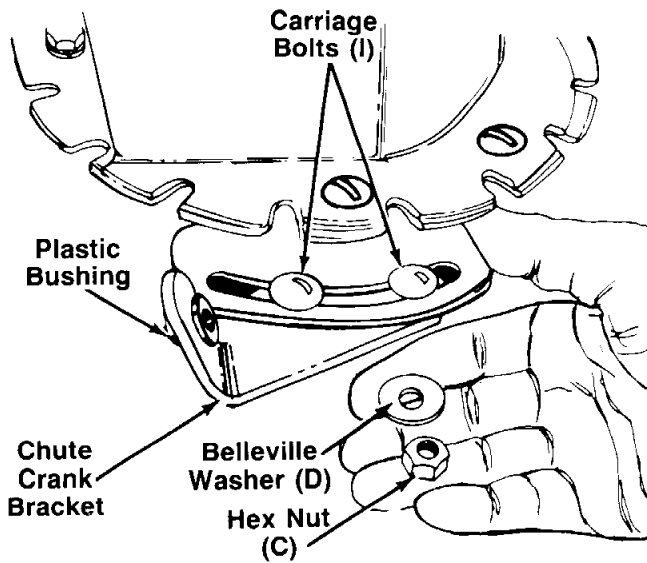

FIGURE 9.
12. Attach chute crank bracket to the extension on the left side of the chute opening (bracket goes beneath the opening) as shown in figure 9. Secure with carriage bolts (I), belleville washers (D) (cupped side of washers goes against the bracket) and hex nuts (C). Tighten finger tight only at this time.